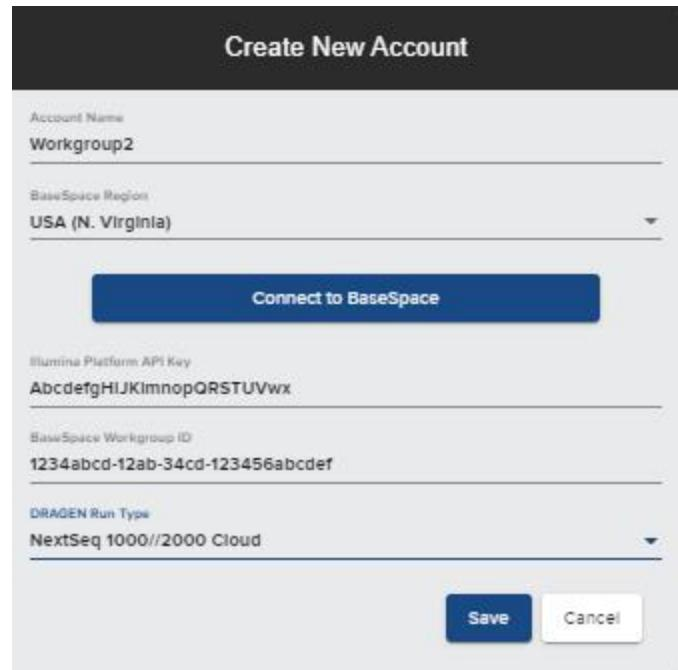

Figure 74: Illumina BaseSpace Admin pop-up
4. In the pop-up window (see Figure 74), create an Account Name for this workgroup connection.